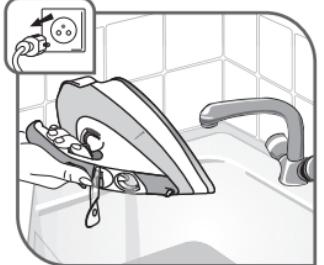

Fig.17
- Disconnect the base and empty the tank – fig.17.